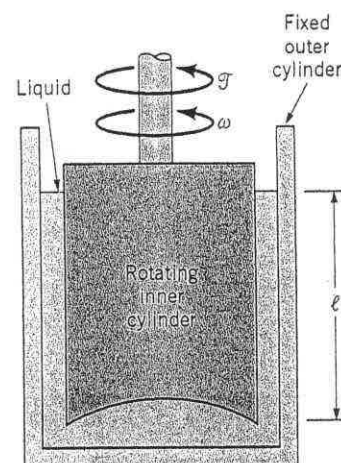

FIGURE P1.87
1.87 The viscosity of liquids can be measured through the use of a rotating cylinder viscometer of the type illustrated in Fig. P1.87. In this device the outer cylinder is fixed and the inner cylinder is rotated with an angular velocity, ω . The torque \mathcal{T} required to develop ω is measured and the viscosity is calculated from these two measurements. (a) Develop an equation relating μ , ω , \mathcal{T} , ℓ , R_o , and R_i . Neglect end effects and assume the velocity distribution in the gap is linear. (b) The following torque-angular velocity data were obtained with a rotating cylinder viscometer of the type discussed in part (a).